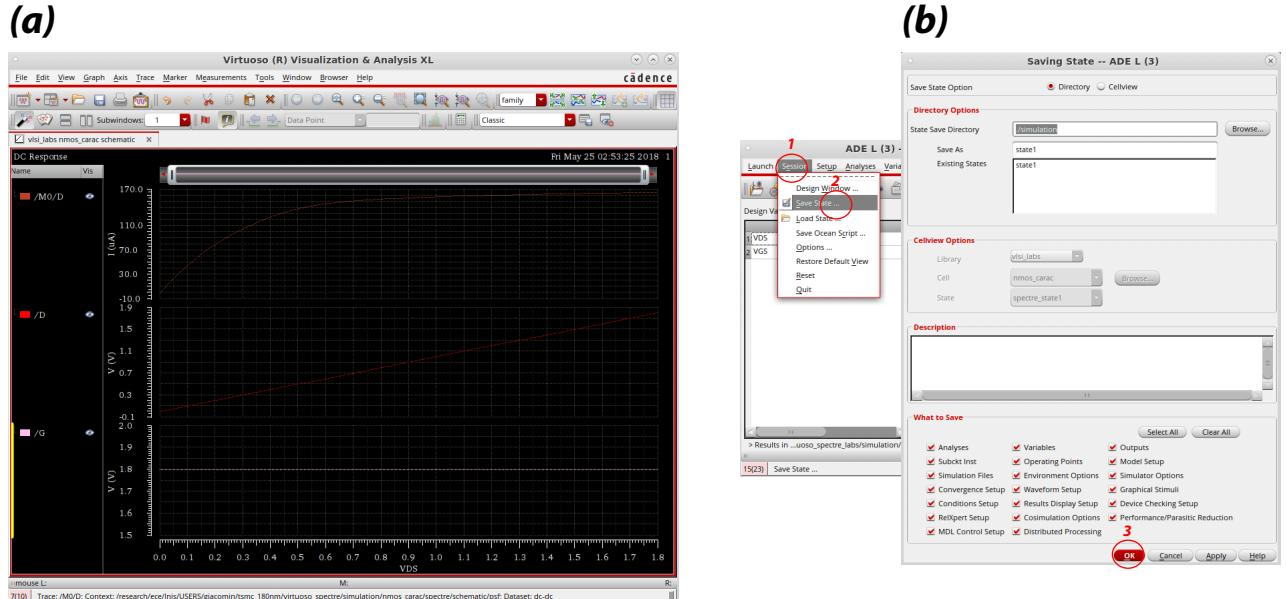

Figure 12: (a) nmos I-V curve; (b) Saving the ADE state.
5. Run your simulation by clicking on the green triangle button and observe the I-V curve (Fig. 12 (a)).
6. Save your ADE L configuration so you can reopen it later without having to re-specify the displayed output signals, the analysis setup, the parameters, etc. To do so: *Session -> Save State... -> OK*, as shown in Fig. 12 (b).